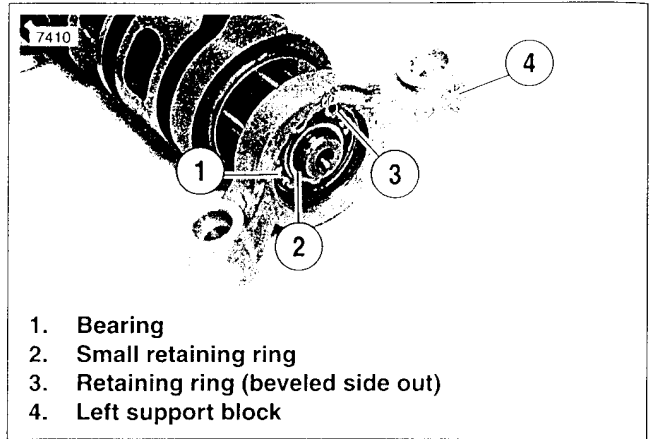

Figure 7-6. Left Support Block
- a. See Figure 7-6. Place a bearing (1) inside left support block by pressing on the side of the bearing with letters stamped on it. This side should face out.
- b. Secure bearing by installing a **new** retaining ring (3) with the beveled side facing out.